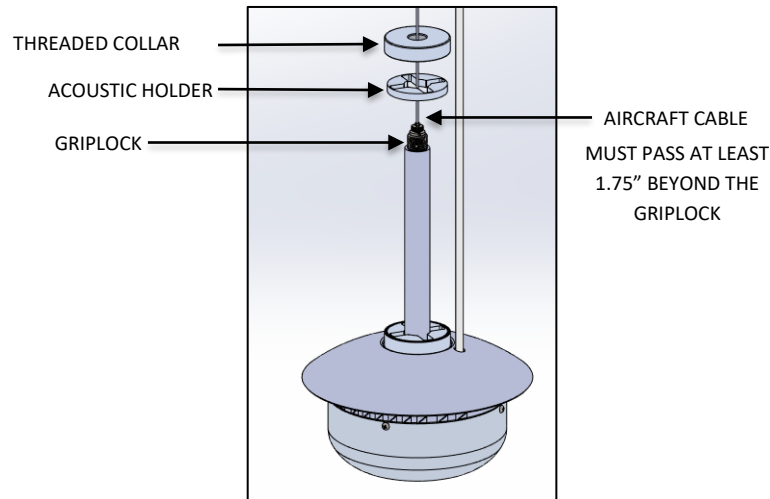

FIG.35 ACOUSTIC PANEL HOLDER ASSEMBLY
27. Feed AIRCRAFT CABLE through THREADED COLLAR and ACOUSTIC HOLDER then into the body of the GRIPLOCK and adjust fixture drop to desired height as shown in FIG. 35. Ensure THREADED COLLAR recess is facing down.